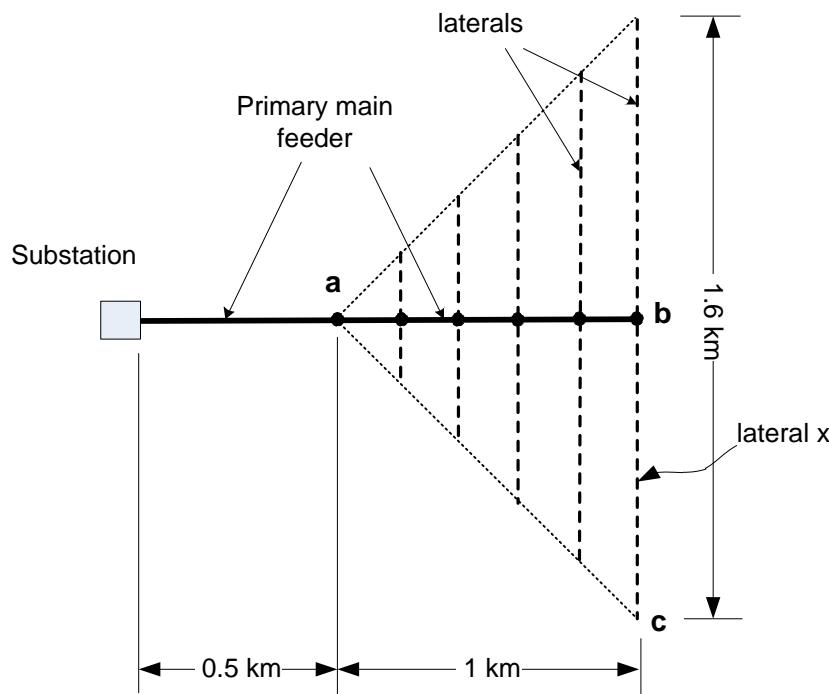

Figure 2.1
- (c) Consider a triangular shaped service area as shown in Figure 2.1. The area has a uniform load density of 1600 kVA/km2 and 0.9 lagging power factor. A substation supplies 3-phase power with nominal voltage 11.00 kV ( $V_{LL}$ ) 50 Hz to this area. The primary distribution system consists of an ACSR 37/2.59 main feeder and ten ACSR 7/4.09 laterals. Both the main and laterals are constructed such that the geometric mean distance (GMD) for the three-phase wire is 0.8m. Assume that the operating temperature of the main and laterals is 40°C and the laterals are uniformly loaded.